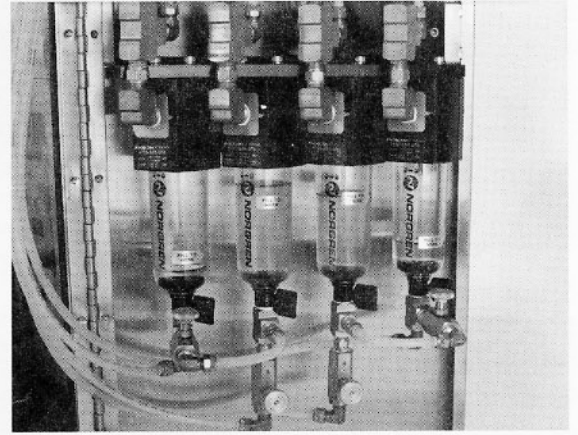

Fig. 33
If the Mineral Oil Level in Reservoir (B) is above the full line and the Oil Level in Reservoir (A) is below the full line (see fig. 33), turn Air ON, turn Main Power Switch ON (see fig. 1), and press the Forward Button. This activates the Motors and the Left Dressing System. Push On-Off button OFF. This deactivates the Motors, however, the Left Dressing System is still activated. ***This next step may require TWO PEOPLE to perform. ***PUSH IN AND HOLD the Left Dresser Button next to the Forward Button. Loosen Locking Nut on Left Oil Leveling Valve. Open the Left Oil Leveling Valve COUNTERCLOCKWISE. Oil will flow from (B) to (A) Reservoir. When the oil level in (A) is approximately 1" above the full line, turn the Left Oil Leveling Valve CLOCKWISE TO STOP the flow of oil. Release the Left Dresser Button. Check Oil Levels. Repeat these steps if necessary. Retighten Locking Nut on this Valve.